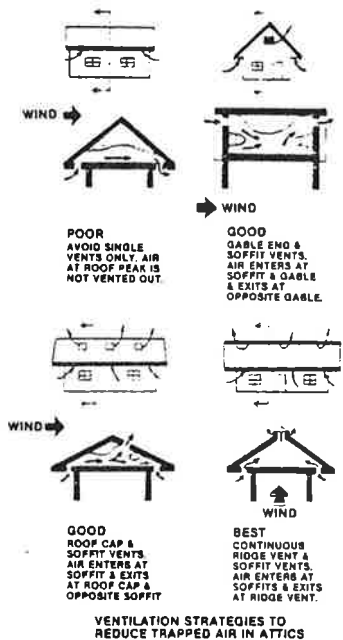

FIGURE 19: ATTIC VENTILATION IS CRITICAL TO AVOIDING MOISTURE PROBLEMS.
4. Determine where vents should be located (see Figure 19).